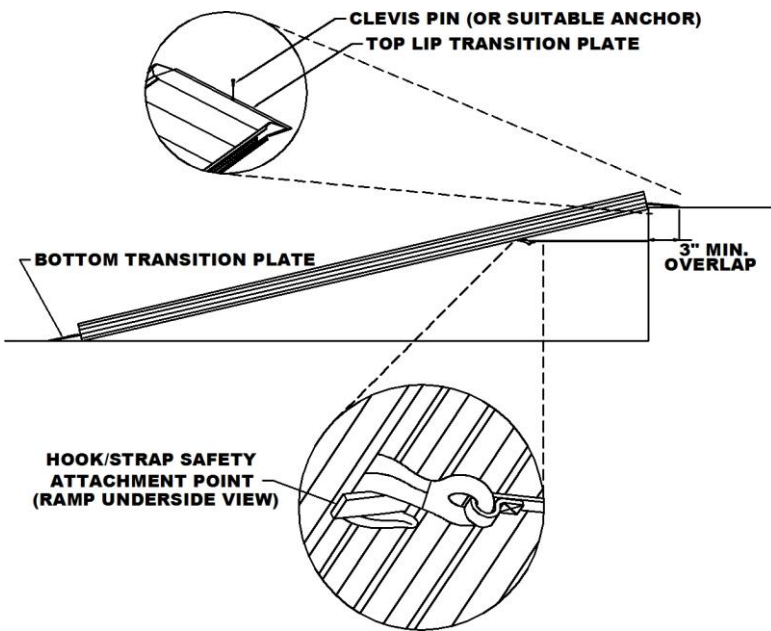

FIG. 4
- Ramp is equipped with a safety attachment point underneath the upper portion of ramp as a method of securing ramp when in use (FIG. 4). Use a strap, chain, or rope (not supplied) to securely attach the ramp to a vehicle or other structure when in use to prevent the top lip transition plate from slipping off the supporting surface.
- In addition to safety attachment point, secure top lip transition plate of ramp to supporting surface with clevis pins (or other appropriate fasteners) to prevent top lip transition plate from slipping when in use (FIG. 4).